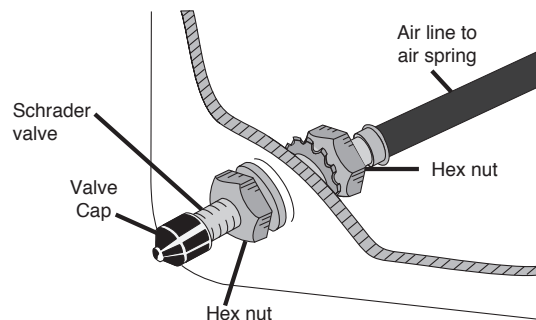

fig. 6
- approximately 1/2" – to easily apply a pressure gauge or an air chuck (Fig. 6).